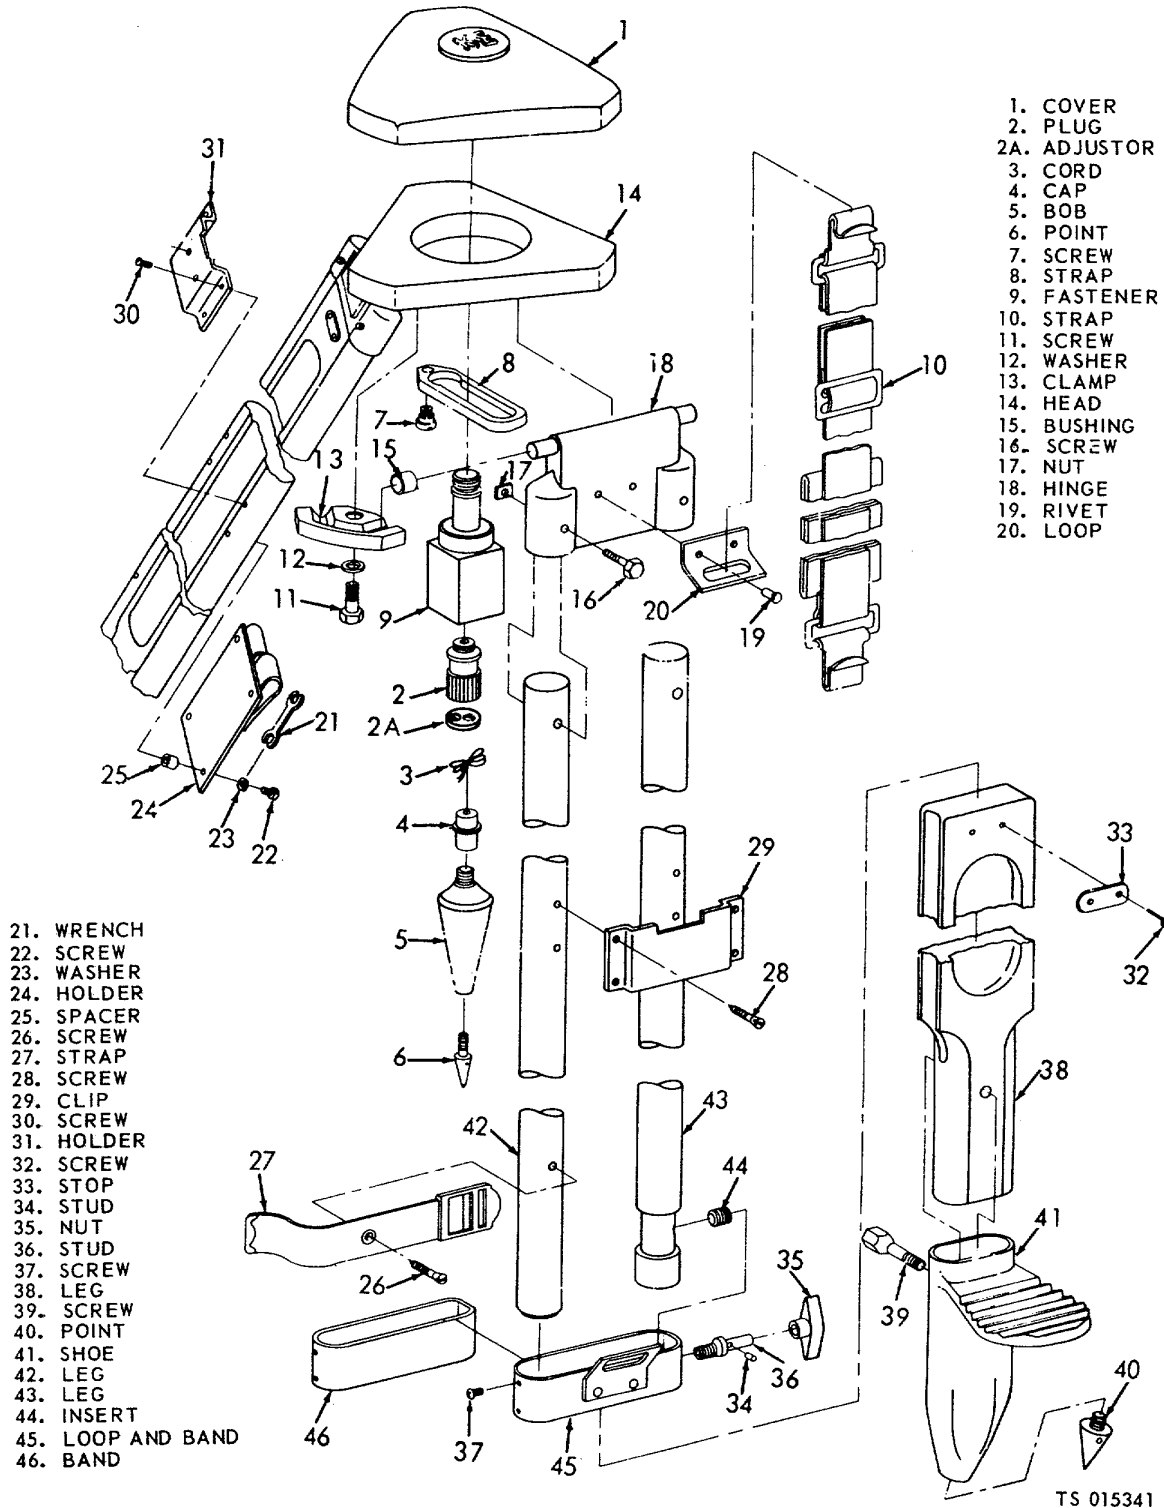

Figure 7-1. Tripod, exploded view.
b. Disassembly. Disassemble the tripod in the order of the index numbers in figure 7-1.
(1) Apply light coating of grease, Specification MIL-G-10924 to upper threads of screw (9, fig. 7-1), surface of pins on hinges (18), inside and outside of bushing (15) and threads of wing nuts (36).
(2) Reassemble tripod in the reverse order of disassembly .